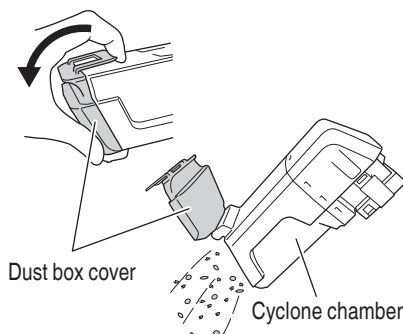

Fig. 20
- (2) Clean out the dust in the cyclone chamber (Fig. 20)